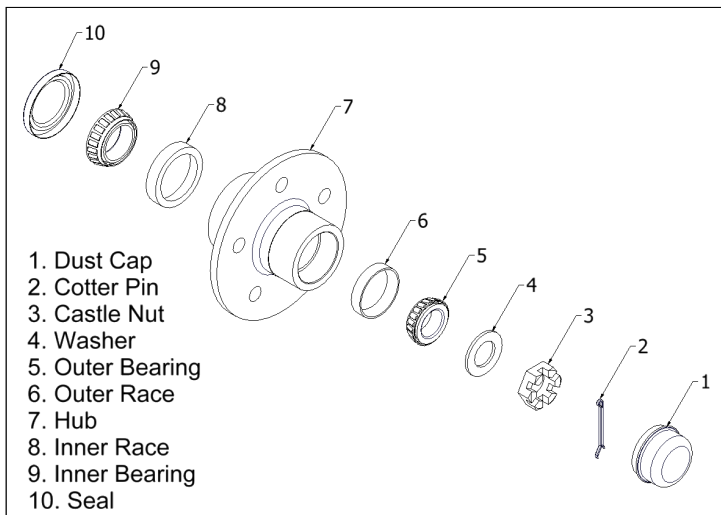

Figure 5-3. Front Hub Assembly
5.3.3.2 Front Hub Assembly. To remove the front hub assembly, follow the maintenance steps in Paragraph 5.3.3.1 before beginning the next steps. (See Figure 5-3).
- a. Remove dust cap (1) by lightly tapping with a rubber hammer.
- b. Remove cotter pin (2), castle nut (3), and washer (4).
- c. Grasp front hub (7) and pull outward firmly. Ensure that bearing (5) doesn't fall from hub and strike the ground.
- d. Remove bearing (5), seal (10), and bearing (9) from the front hub (7).
- e. Using a suitable H-frame press, remove bearing races (6) and (8).
- g. Reassemble in reverse order. Castle nut (3) should be tightened until the hub assembly rotates barely past free.